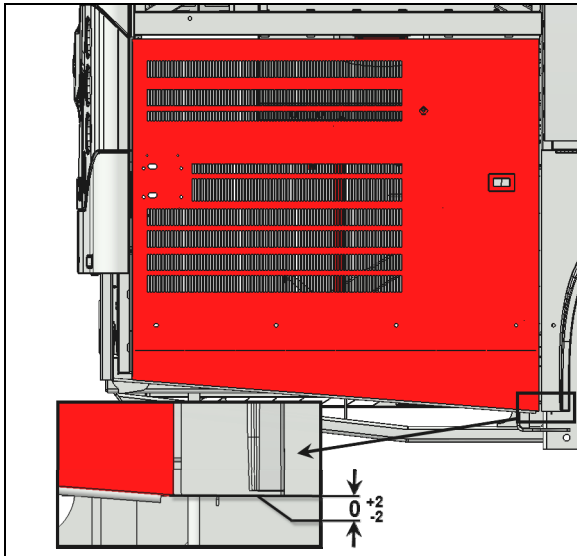

FIGURE 54
3. Compare the lower edge of the door level with the lower edge of the rear fender. The door should be flush with the fender (FIGURE 54).